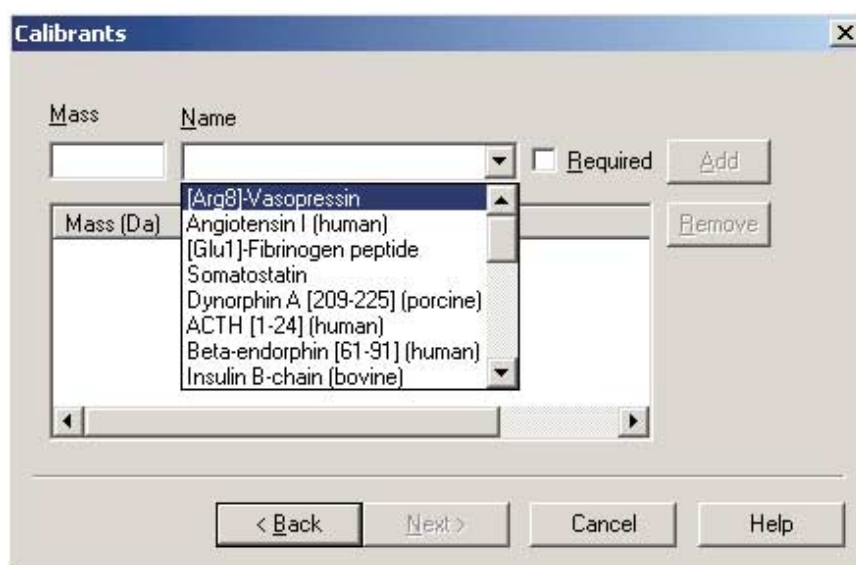

Figure 3-5: Selecting a calibrant to add it to the calibration protocol.
4. Click the **Name** drop-down box to open the list of calibrants, and select **[Arg8]-Vasopressin** (Figure 3-5). The calibrants are listed by size. Click **Add** to include it in the calibration protocol.